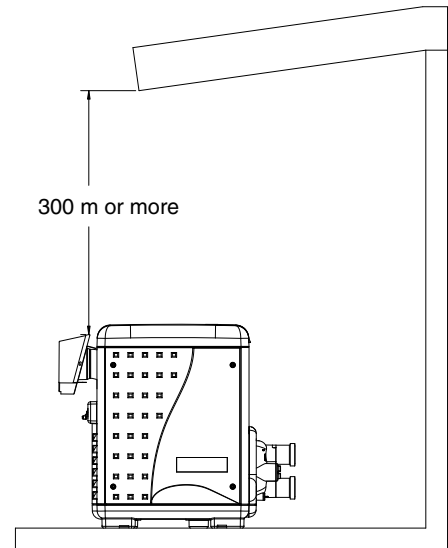

Figure 14.
a) At least 300 mm below eaves, balconies and other projections (Figure 14). \* Where eaves have openings into the house or roof space, the clearance required is 1500 mm.